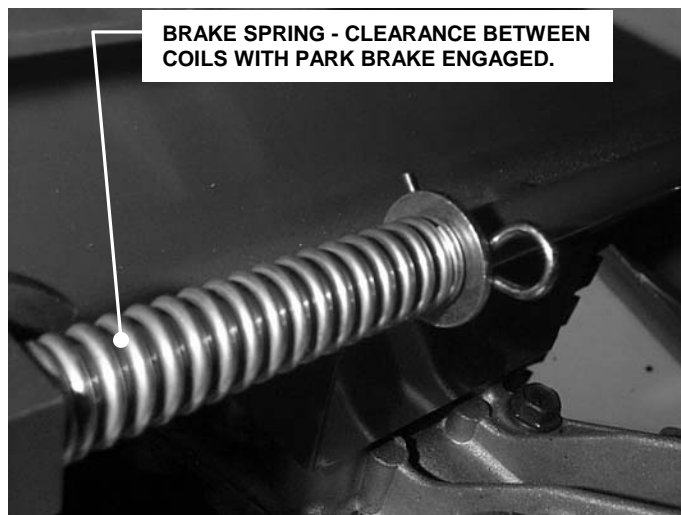

FIGURE 4.12
7. Engage parking brake. Pedal effort should not be excessive. Check brake rod spring. With brake engaged there should be clearance between the coils. See Figure 4.12.